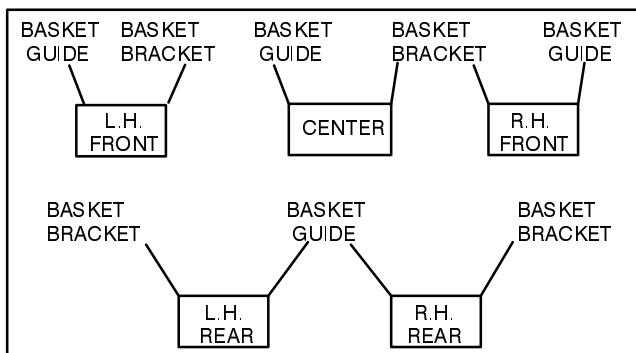
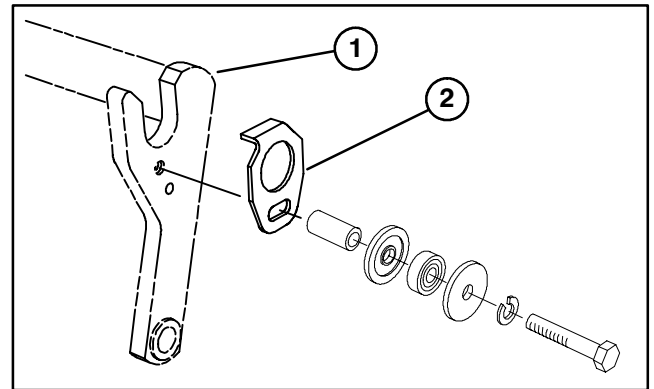
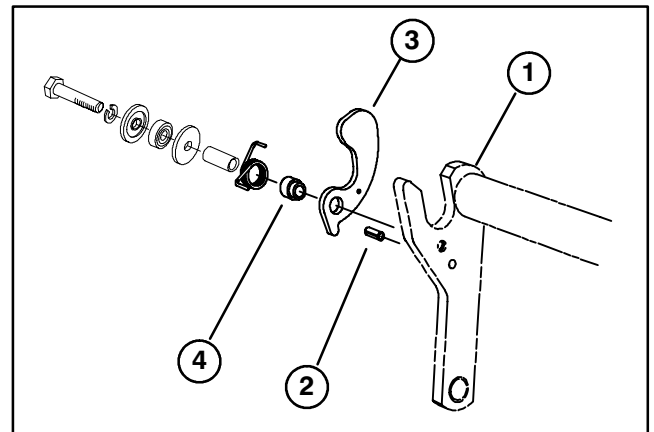
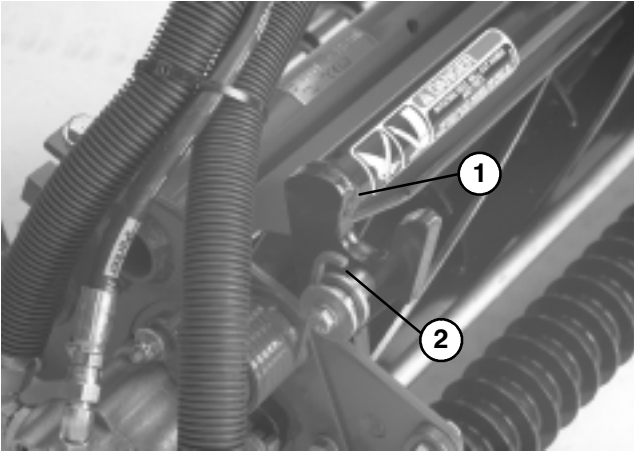

Figure 5
Figure 6
Figure 7
Figure 8
INSTALL CUTTING UNITS (Fig. 5–12)
2. If baskets will be installed, use chart below (Fig. 5) to determine locations at which basket guides or basket brackets must be mounted to cutting unit carrier frames. If baskets are not to be installed, proceed to step 7.
3. Remove hardware securing Turf compensation kit to each end of carrier frame (Fig. 6 & 7) and reuse when installing basket guides and basket brackets (Cutting unit models 03506 and 03509 only).
4. Mount a basket guide (Fig. 6) to the appropriate side of each cutting unit carrier frame (see figure 7) with a 5/16–18 x 1–3/4" lg. capscrew, flatwasher and lockwasher or fasteners previously removed, as shown in figure 6.
5. Install a roll pin (Fig. 7) into hole in appropriate side of each cutting unit carrier frame (Fig. 5).
6. On the same side of carrier frame as roll pin is installed, mount a basket bracket with a 5/16–18 x 1–3/4" lg. capscrew, lockwasher, flatwasher, torsion spring, basket collar or fasteners previously removed, as shown in figure 7. Torsion springs are different for L.H. and R.H. sides of carrier frames. Three are (2) L.H. and (3) R.H. springs. Longer leg of spring is to be positioned forward as shown in Fig. 8.